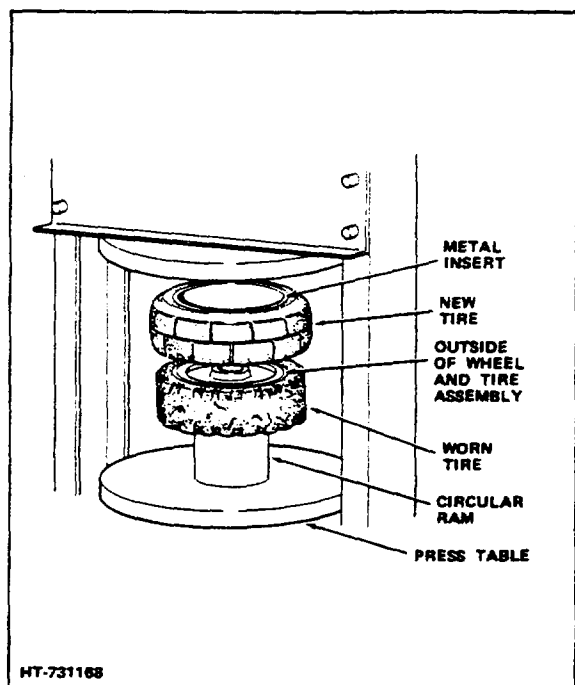

Figure 7-2. Cushion Tire Replacement
3. Place a circular ram (Fig 7-2) on the press table. The length of the ram must be longer than the width of the old tire that is to be removed to allow complete removal of old tire. The outside diameter of the ram must be small enough to fit loosely in the insert of the tire, but must be large enough to rest squarely on the flat surface at the outer edge of the wheel.